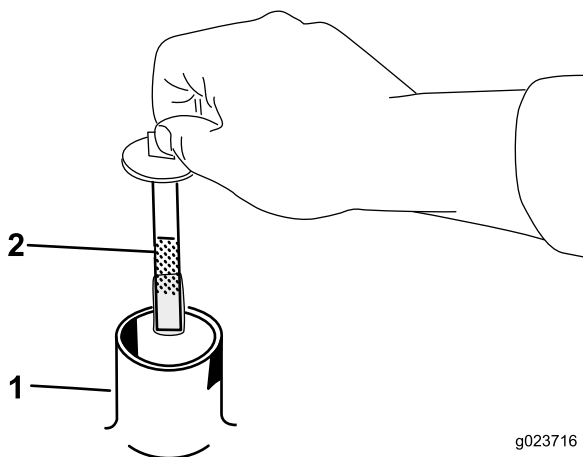

Figure 41
5. Remove the cap from the filler neck and check the fluid level on the dipstick (Figure 41).